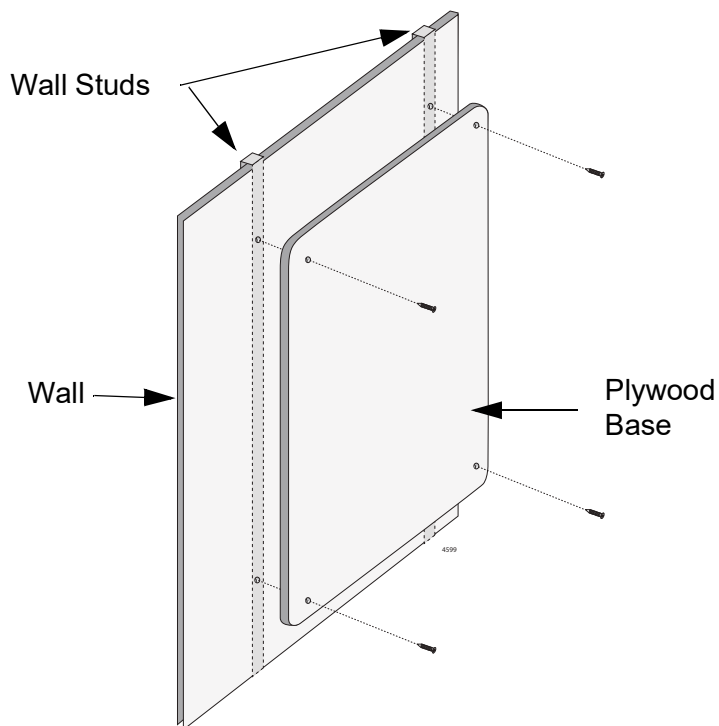

Figure 29. Installing the Plywood Base to the Wall
1. Install the plywood base on the wall and then install the switch on the base. Refer to Figure 29.